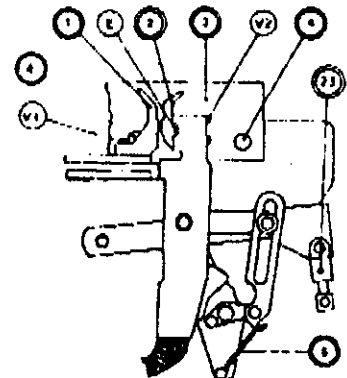

Fig. 6
3. Poles (Fig. 6)
Close breaker and check gap setting of arcing horns. If gap exceeds 1.5mm (0.059 inches), adjust by loosening bolt #VI (Fig. 6) setting gap to $0.9\text{mm} \pm 0.1\text{mm}$ (0.035 ± 0.004 inches) and tightening bolt by torquing to 0.8mm-Kg. (5.8 ft.). Remove both fixed and movable arcing horns along with insulating barriers when thickness of arcing pads erodes to approximately 0.5mm (0.020 inches).